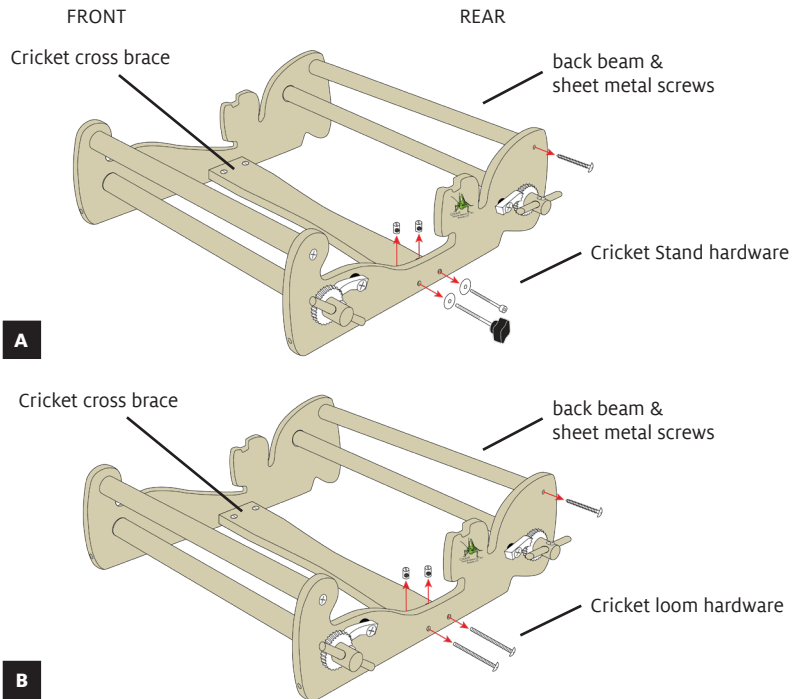

FIGURE 13: REMOVE CRICKET CROSS BRACE AND BACK BEAM
23. For all looms, remove the back beam as shown in Figure 13. Set aside the back beam and the two sheet metal screws for step 28.